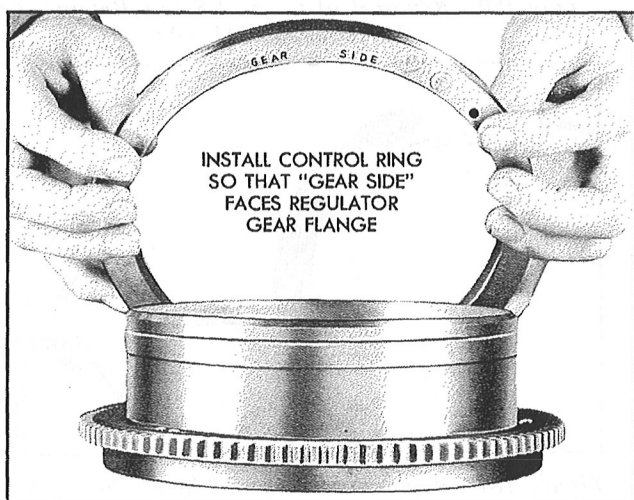

Figure 184—Assembly of the Regulator Gear, Models A632S-C1, -B1, -B5
*Step 3.*—On Models A632S-C1, -B1, -B5, place the control ring on the regulator gear with the notation "Gear Side" facing the regulator gear flange, as shown in Figure 184.